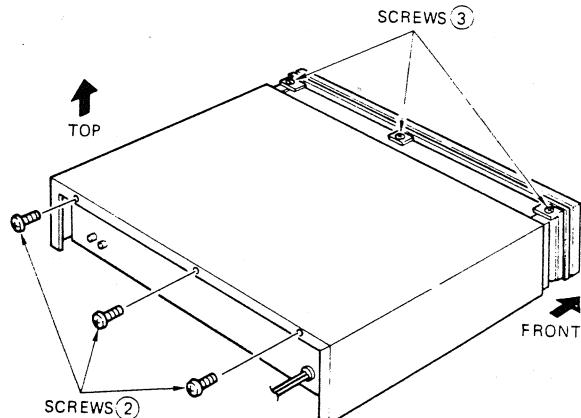

Fig. 2
- 2) Remove 3 screws ② from the back panel. (Fig. 2)
- 1) Remove 3 screws ③ from the upper side of the front panel. (Fig. 2)
- 2) Remove 3 screws ③ from the lower side of the front panel. (Fig. 2)